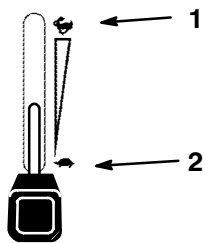

Figure 16
- Move the throttle lever to “SLOW” (Fig. 16).